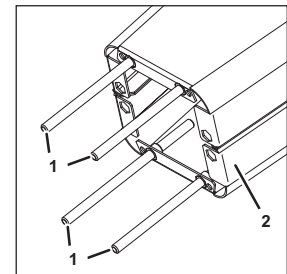

Fig. 15
8. Remove the threaded bolts (Fig. 15/1), on the stand (Fig. 15/3) of the unit, by unscrewing the threaded bolts from the stand (Fig. 15/3).